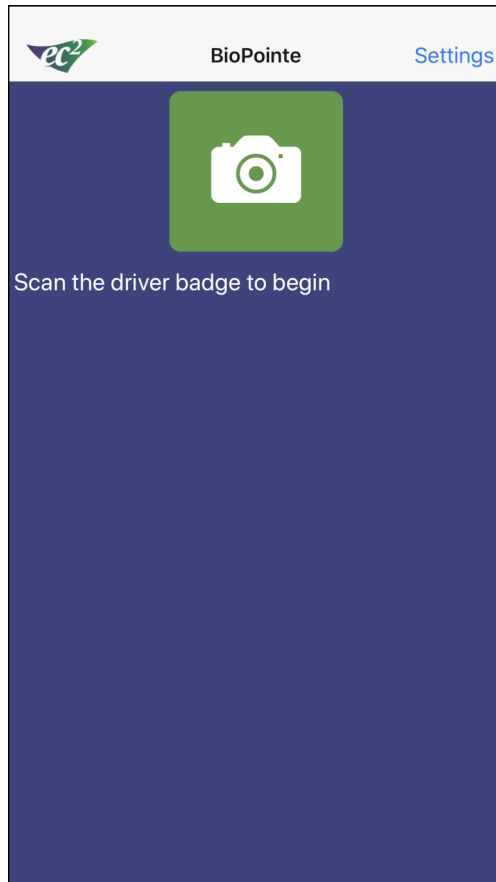

Fig 1
- b. Scan driver badge. See Fig 1